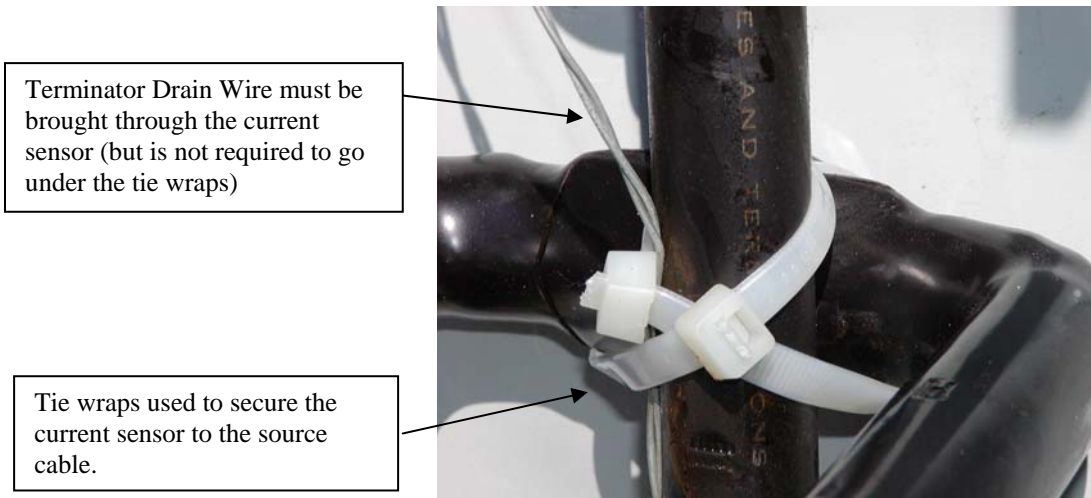

Figure 10 – Securing the CT to the source side main cables
2.12.5 Secure the current sensor to the phase wire using plastic wire ties as shown in figures 10 and 11.